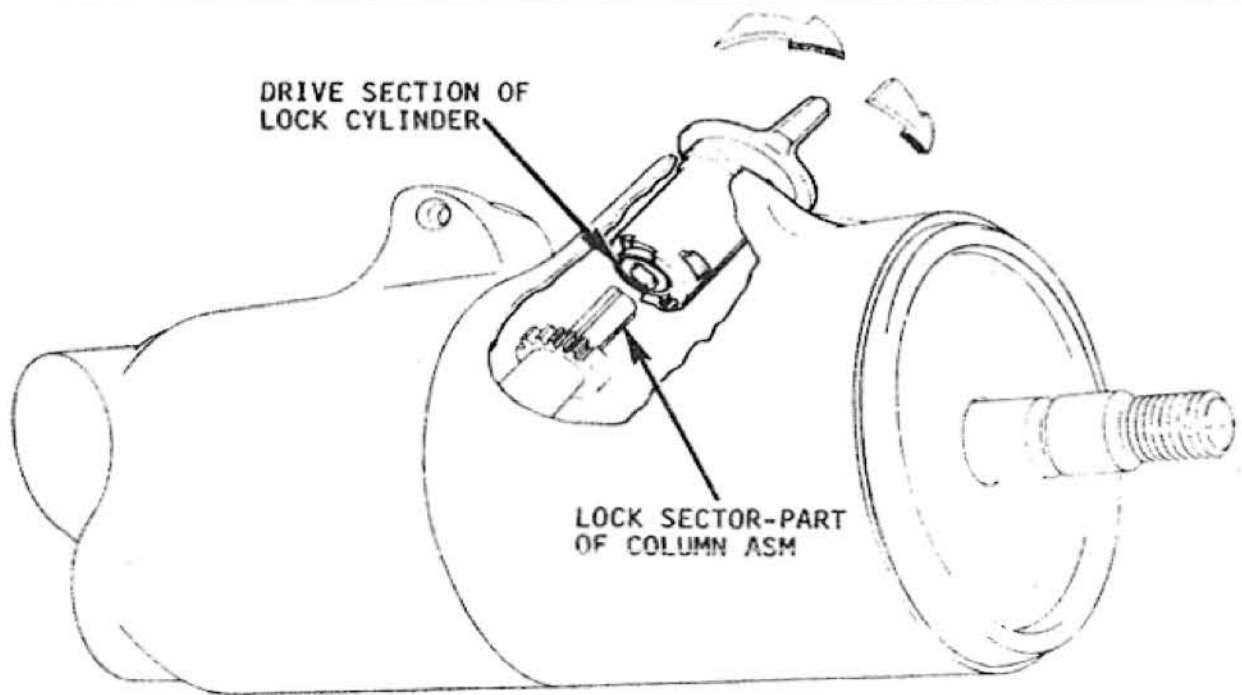
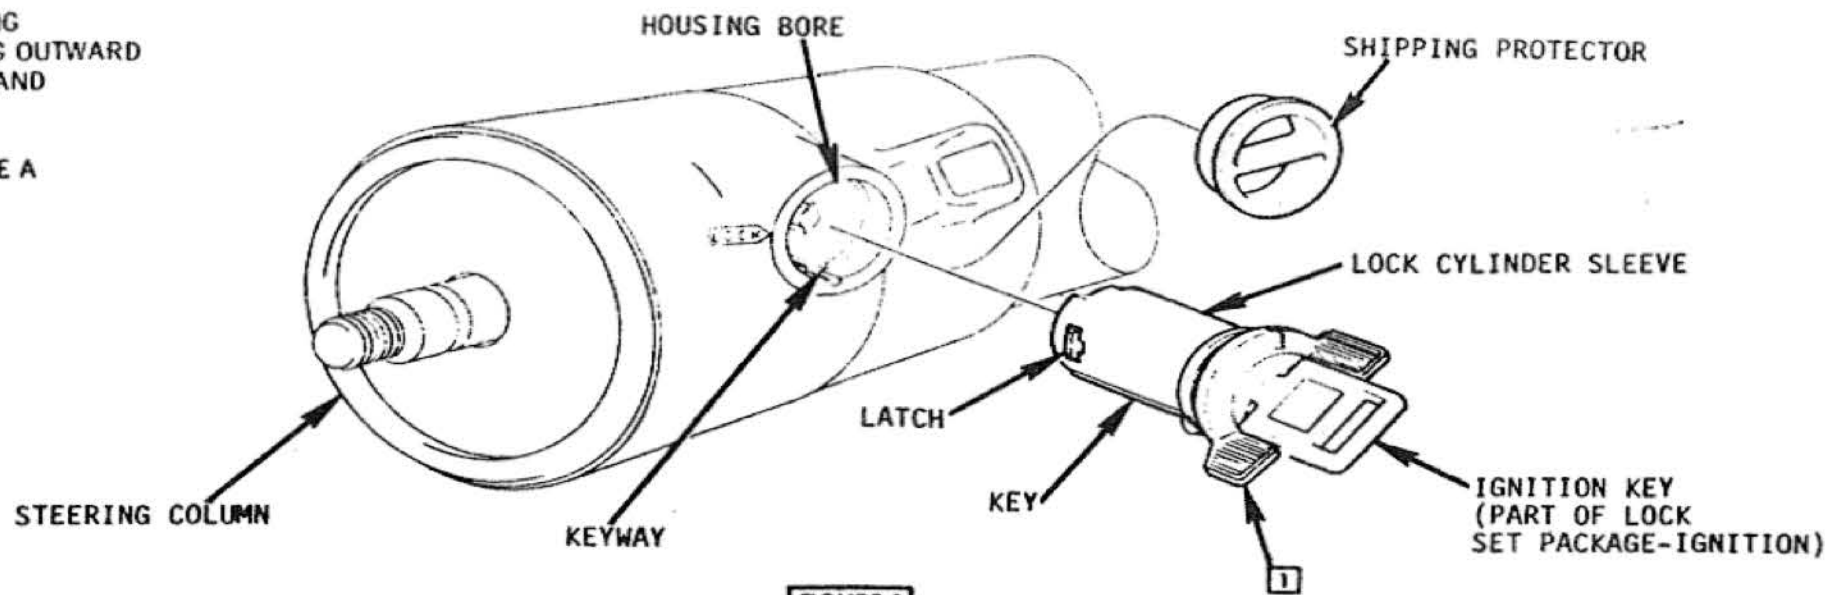

FIGURE 2
FIGURE 1
- B WITH IGNITION KEY IN LOCK CYLINDER ASSEMBLY, HOLD LOCK CYLINDER SLEEVE AND ROTATE KNOB CLOCKWISE AGAINST STOP WHEN VIEWED FROM KEY END. (KNOB MUST ROTATE APPROXIMATELY 104°) (FIG. 1).
- C INSERT CYLINDER INTO HOUSING BORE WITH KEY ON LOCK CYLINDER SLEEVE ALIGNED TO KEYWAY IN HOUSING. (FIG. 1). PUSH CYLINDER INWARD UNTIL END OF LOCK CYLINDER TOUCHES END OF LOCK SECTOR. (FIG. 2).
- D SLOWLY ROTATE LOCK KNOB COUNTERCLOCKWISE, MAINTAINING A LIGHT PUSH INWARD ON LOCK CYLINDER UNTIL DRIVE SECTION OF LOCK CYLINDER MATES WITH SECTOR. (FIG. 2).